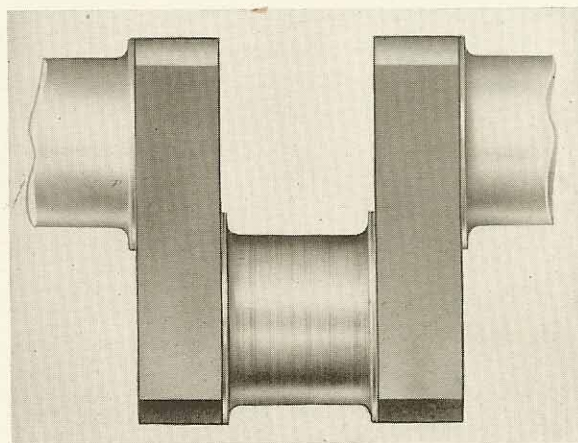

FIGURE 13-2
3. EXAMINATION OF THE CRANKPIN: Examine the crankpin carefully for damage. The roundness of the crankpin can be checked by outside micrometers. If the pin is slightly scored as shown in Figure 13-2 a new bearing can be fitted providing the crankpin is cleaned up. Use a whetstone and fine emery cloth to remove any rough projections which are above the bearing surface. When using any abrasive